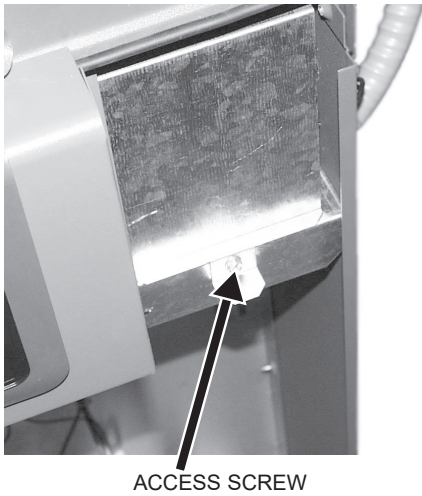

Figure 14. Transformer Cover Access
- 12. Using a 5/16" nut driver, remove the transformer cover located on the right side of the heater. See **Figure 14**.
15. Reinstall the transformer cover. See **Figure 14**.